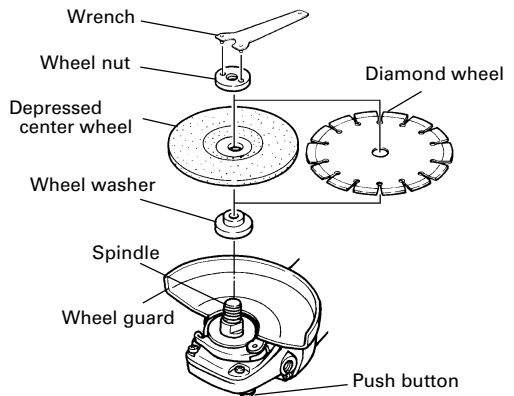

Fig. 3
Confirm that the push button is disengaged by pushing push button two or three times before switching the power tool on (See Fig. 3).
ASSEMBLING AND DISASSEMBLING THE DEPRESSED CENTER WHEEL (Fig. 3)
1. Assembling (Fig. 3)
Tighten the wheel nut by using the supplied wrench as shown in Fig. 3.